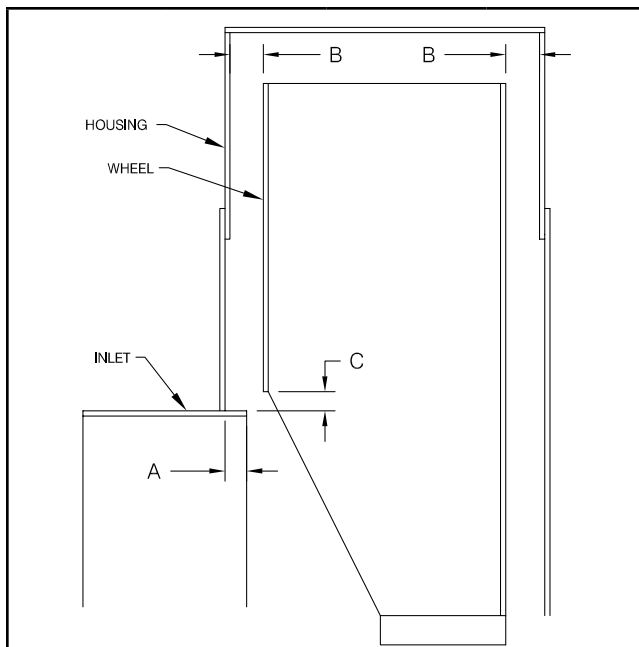

Figure 4
6. When installing a new wheel or inlet section, the proper wheel to inlet clearance must be maintained (see Figures 4 and 5 for correct dimensions for full width wheels).
Check the hub and bushing and remove all foreign material from the fan shaft, the hub and the bushing. Inspect the surfaces and edges to insure that there are no burrs. Clean the machined surfaces of any grit or dirt and coat with a light film of oil. Place the fan wheel onto the shaft inside the housing. Slide the bushing onto the shaft and into the hub. Slide the wheel forward on the bushing and insert the bolts through the bushing flange into the three tapped holes in the hub. Check the wheel clearances inside the housing (see Figures 4 and 5).